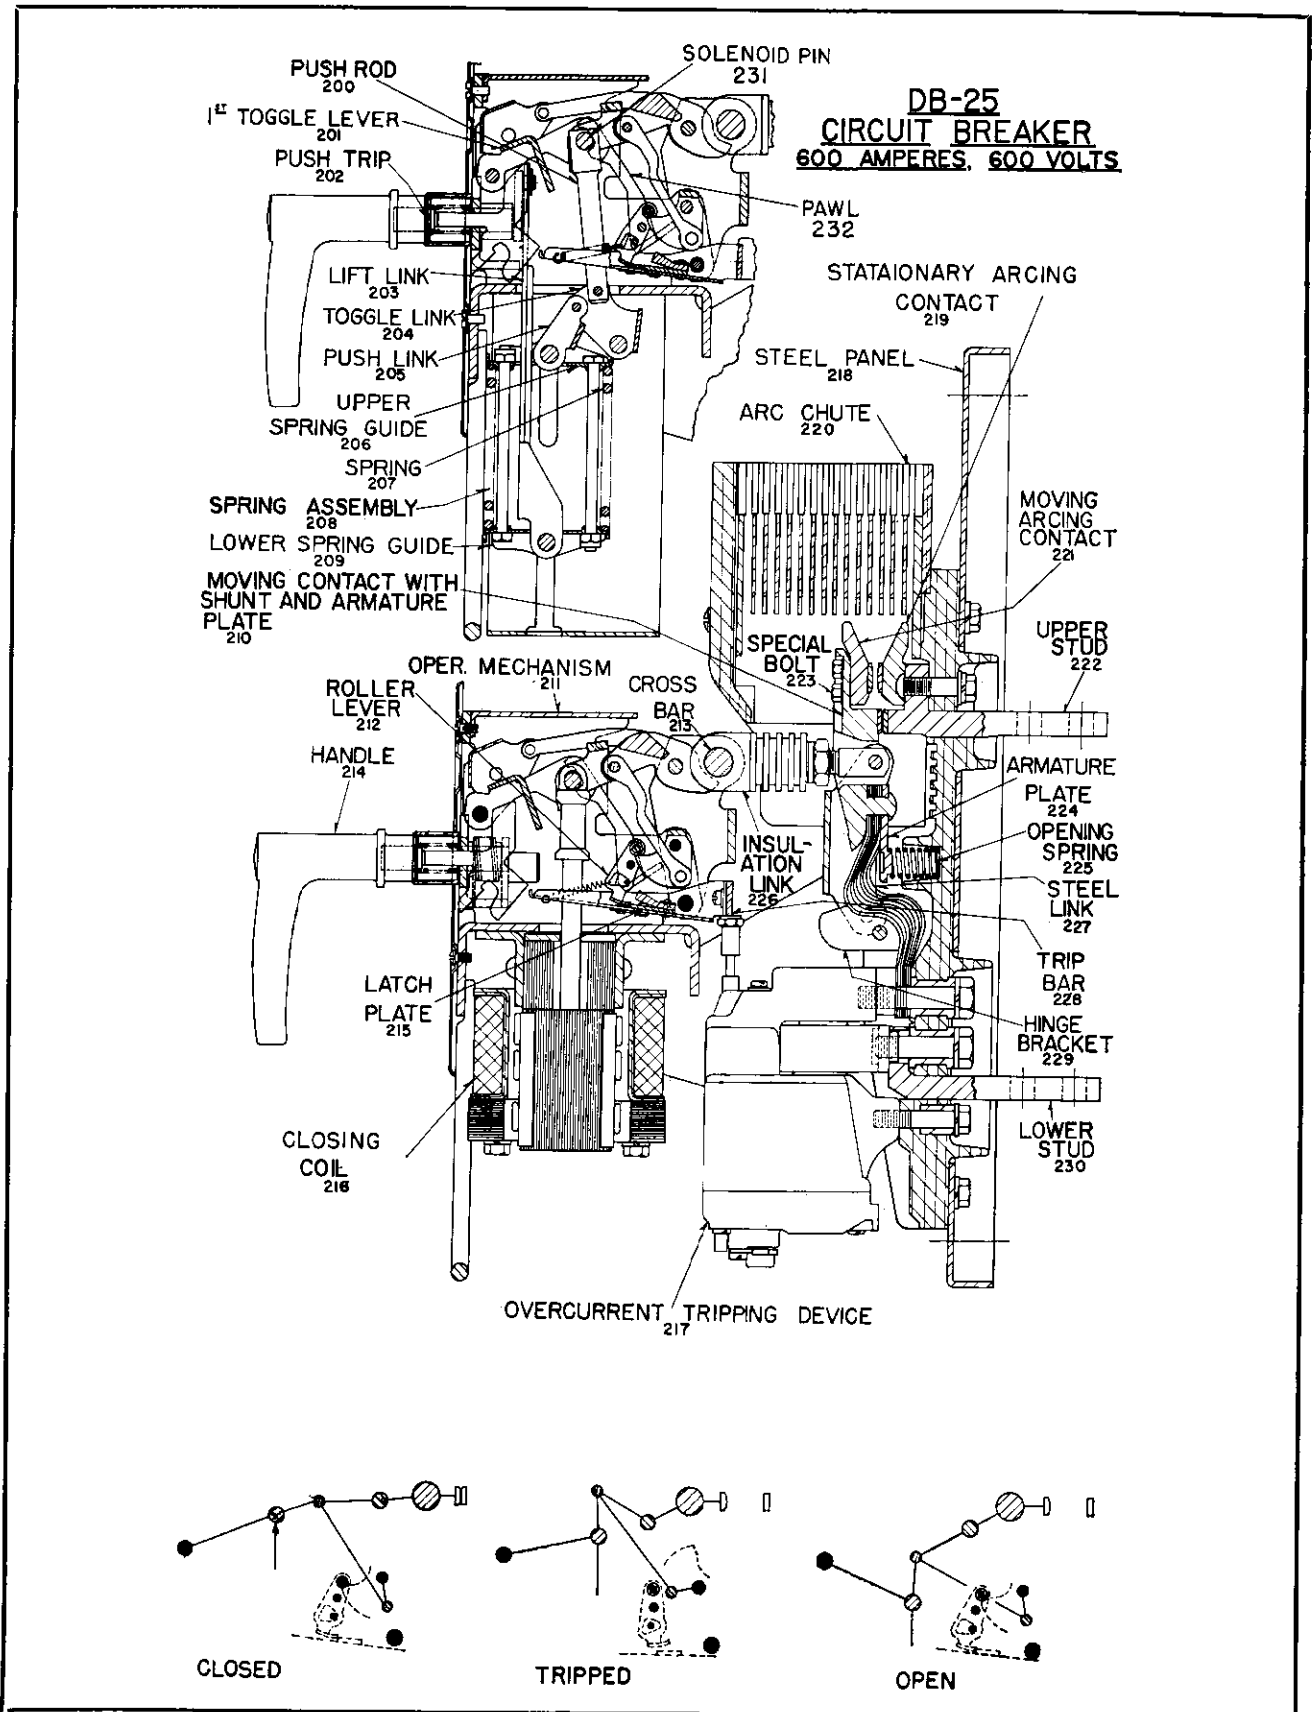

FIG. 5. Cross-Sectional View of Type DB-25 Circuit Breaker
Each pole unit is mounted on a separate molded base through which the breaker studs pass. (See Fig. 5). The molded bases are attached to the steel mounting panel and provide insulation for the breaker studs.
**Contacts.** (See Fig. 5). The DB-25 arcing contacts should touch first on closing, open last on opening, and have approximately a  $\frac{3}{32}$ -inch gap when the breaker is completely closed. This gap is adjusted by removing the cross bar and screwing the insulating link in or out on the stud. Be sure to tighten the lock nuts after each adjustment.
The operating mechanism (see Fig. 5) is non-adjustable and consists of a series of steel links designed to secure low closing and tripping forces. To check for friction, raise the trip bar and slowly rotate the manual operating handle in close and trip direction. The linkage should follow the handle without sticking.
The closing spring assembly is shown in the breaker closed position in Fig. 5. Assuming the breaker is in the open position, the following closing sequence applies:
The closing solenoid (see Fig. 5) is non-adjustable. It is designed for intermittent duty only. Check for loose bolts.